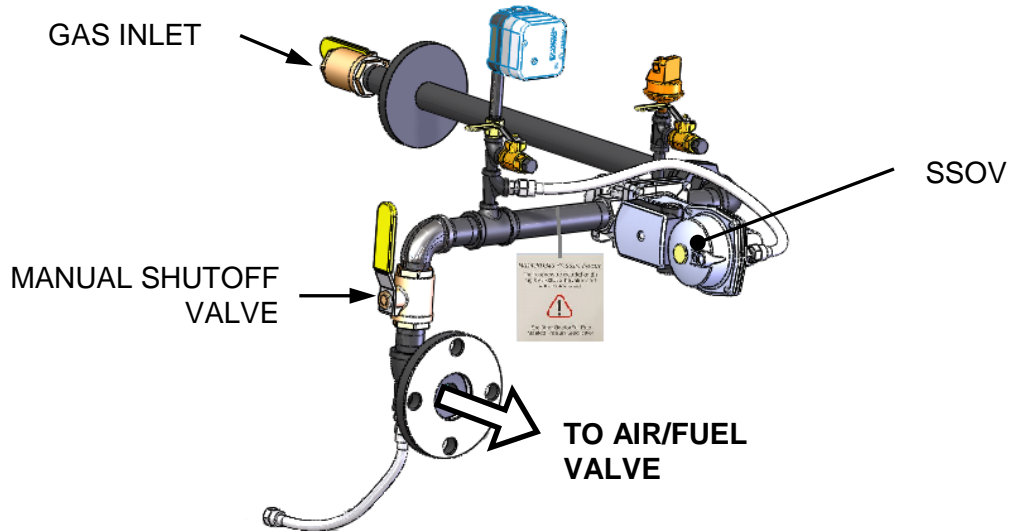

Figure 3-3. SSOV Location (INN1060 Gas Train shown)
2. The unit checks to ensure that the **Proof of Closure** (POC) switch in the downstream Safety Shut-Off Valve (SSOV) is closed. See Figure 3-3 for SSOV location.